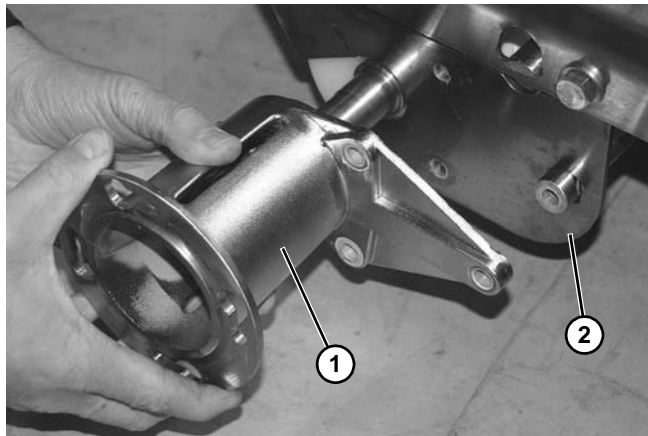

Figure 70
9. Remove motor mount (**Figure 70, item 1**) from side plate (**Figure 70, item 2**).
10. Remove bearing from motor mount (**Figure 70, item 1**). (See “Bearing Replacement” on page 31’.)